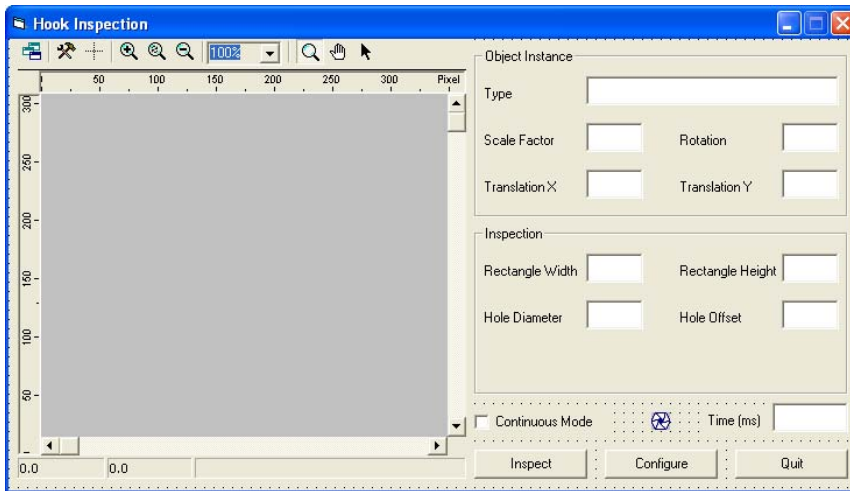

Figure 67 Visual C++ Dialog for Tutorial 4
1. On your application dialog, add two edit boxes. Name the first one **IDC_EDIT_DIAMETER** and the second **IDC_EDIT_OFFSET**. Add proper labels for your edit boxes. Set everything to appear as illustrated Figure 67.